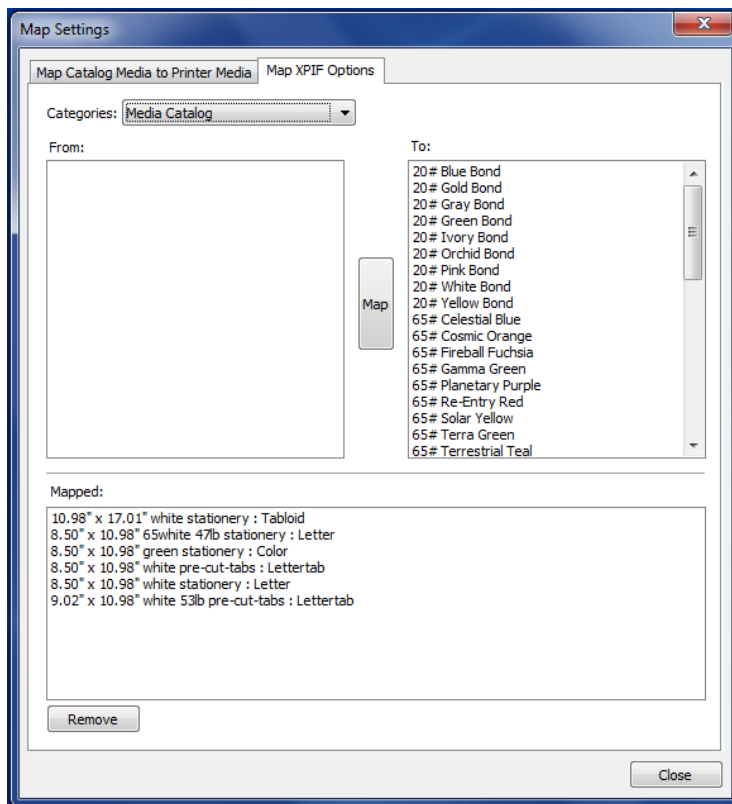

Figure 6: Map Settings
Alto has developed a powerful editing tool to enable a user to build, edit and maintain mapping files to match media and finishing exceptions found, not just in RDO files, but among various printing systems (figure 6).
- Media Catalog (shown in Figure 6)